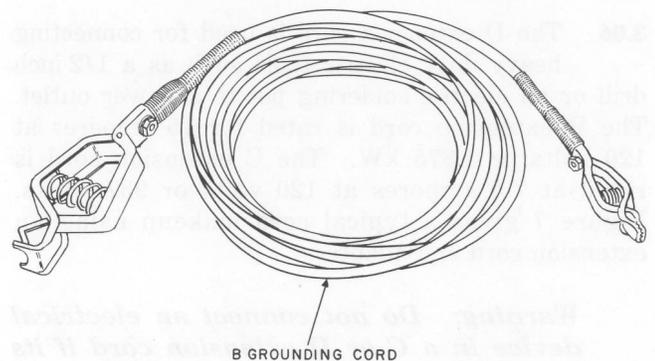
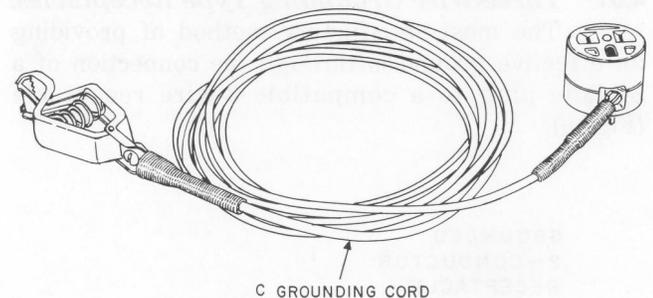

Fig. 4—B Grounding Cord
Fig. 5—C Grounding Cord
3.04 When it is not possible to obtain a ground source at the convenience outlet, either the B (Fig. 4) or C (Fig. 5) grounding cords or a length of grounding wire (14-gauge) may be used.
(a) The B grounding cord (Fig. 4) is a 15-foot, 18-gauge, single-conductor cord with clips at both ends.
(b) The C grounding cord (Fig. 5) is identical to the B cord except that it has a clip on one end and a 3-conductor plug adapter on the other end.